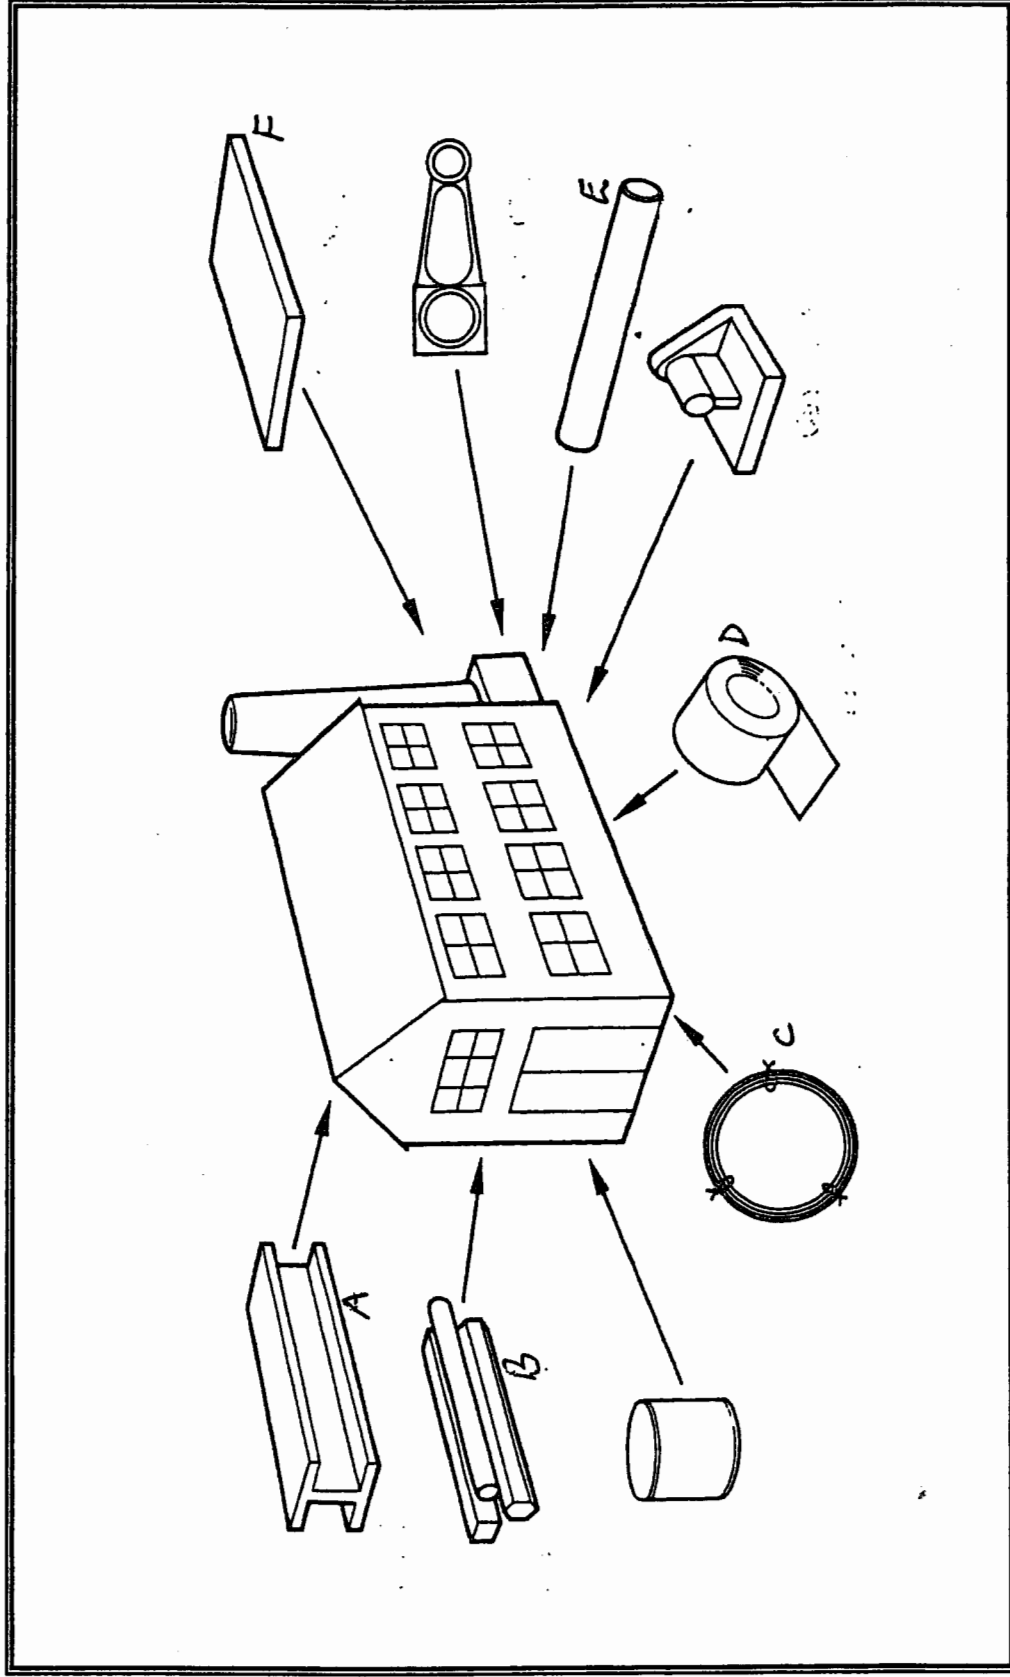

Figure 3. Forms of steel supplied on the market.
- a) Figure 3 (attached) shows forms in which steel is commonly sold at the hardware stores in Swaziland.